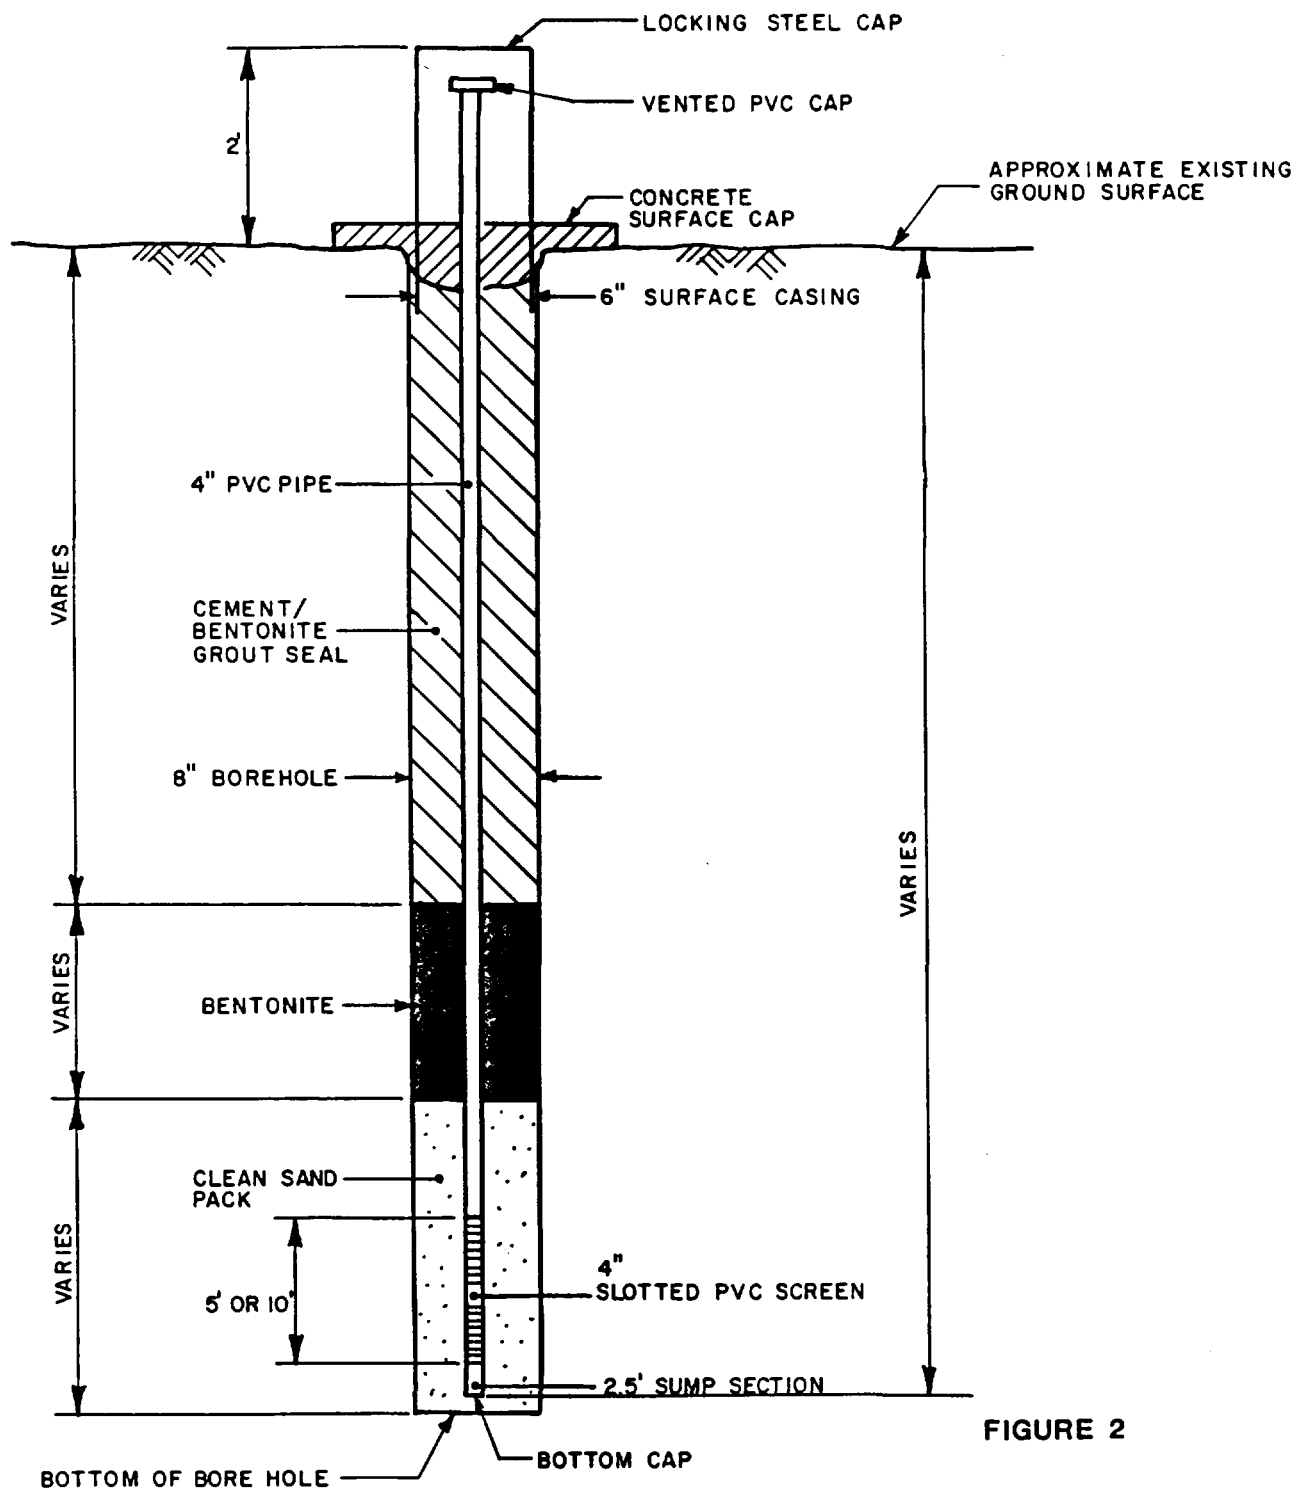

FIGURE 2
The well design is shown on Figure 2 and consists of a sump, screen, riser pipe, cap, sand or gravel pack, bentonite seal, grout, locking cap and protective posts. The length of casing and depth of the well is planned so that the screened interval will be submerged during low ground water conditions. The purpose of the sump is to collect any soil/sediments which may enter the well through the gravel pack and slotted screen. The sump will extend two to five feet. Based on our considerable experience in monitor well design, installation and operation, we believe a sump is an important maintenance item and will extend the operational life of the monitor well. The slots in the screen should be 0.015 inches. The sand will be rated clean sand per ASTM designation A139 and should contain less than five (5) percent weight calcareous (CaCO_3) material. The well diameter will be two (2) inches and the construction material will be polyvinyl chloride (PVC) pipe with flush screw threaded joints. In order to avoid any potential concern for ground water stagnation in the well, we have increased the volume of water to be purged prior to sampling from three well volumes to five.
The hole will then be advanced approximately thirteen (13) feet below the protective casing, with sampling and rotary wash. The well, with centralizers, will be installed as shown in Figure 2 followed by the gravel pack and a two foot bentonite seal. The remainder of the annular space will be sealed using a cement/bentonite grout.